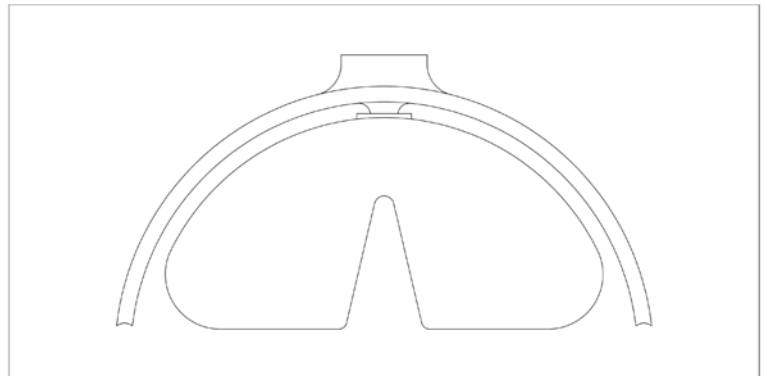

Figure 2: Cover Plate of Electric Reed Vibrator with Inside Diameter of Proving Ring
- 7-** If the condition described above is experienced, loosen the rear cover plate screws 1 full turn and loosen the lock set screw 3/4 to 1 full turn. Then, shift the Electric Reed Vibrator until the cover plate is brought into alignment with the inside diameter of the Proving Ring (see Figure 2). Alignment according to your sight is good enough. While holding the Electric Reed Vibrator in alignment, tighten the rear cover plate screws. This should give a clamping action on the reed holder. If there is no clamping action refer to Step 8.